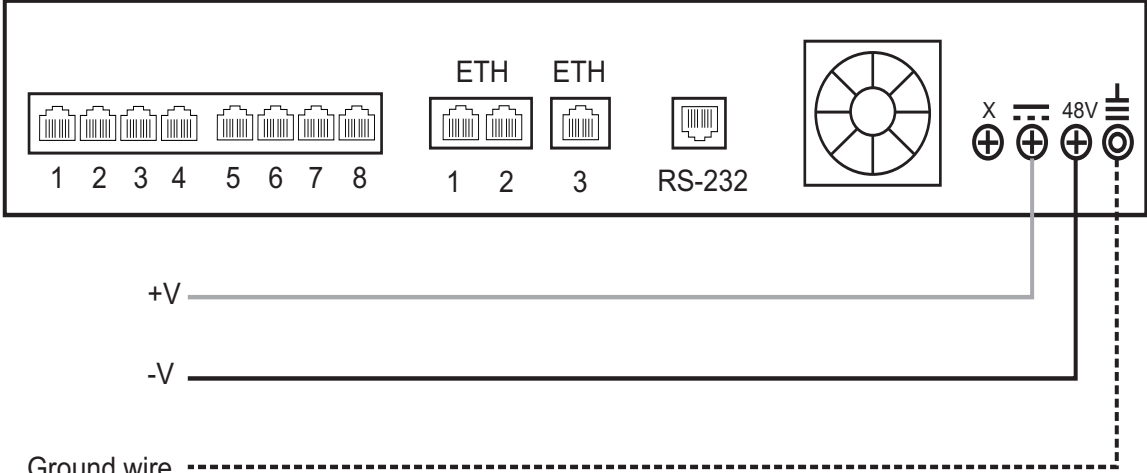

Figure 2.6 TMG800 DC wiring diagram
1. Connect a ground wire to the ground lug located at the rear of the TMG800, as shown in figure 2.6 on page 13.